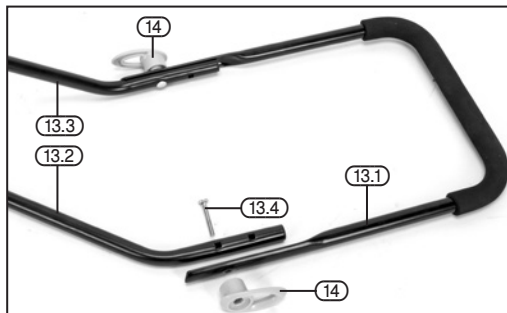

FIG. 1
6.1 FITTING THE PUSH HANDLE – FIGS. 1 - 2